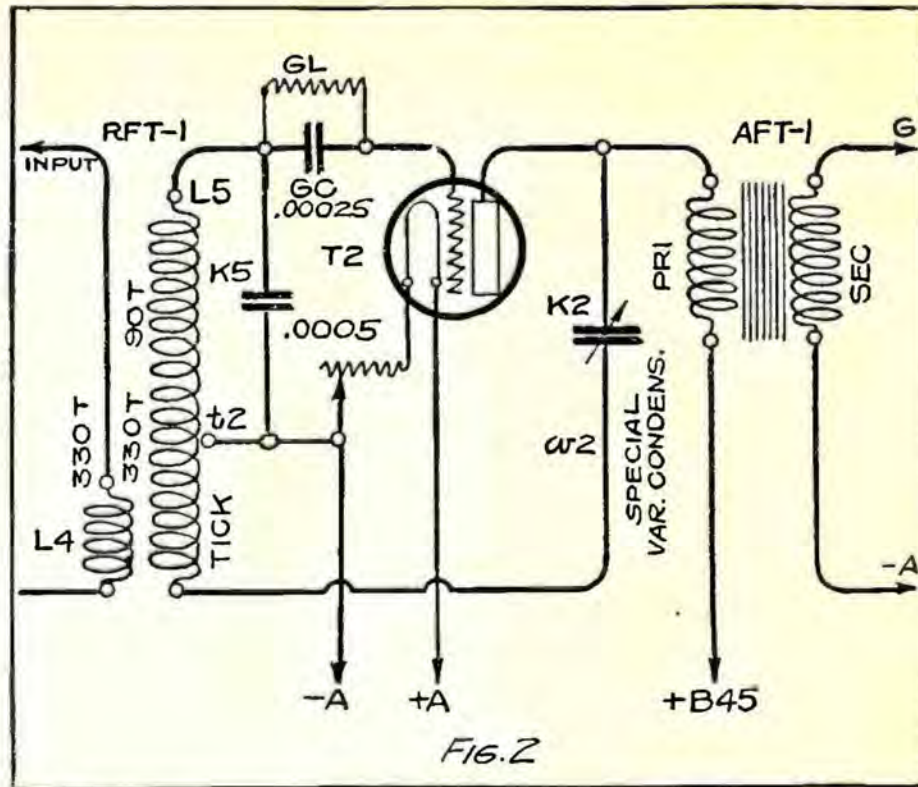

FIG. 2
Following the radio frequency circuit is the detector circuit of Fig. 2, coupled by means of the air-core radio frequency transformer or filter (RFT-1). The primary (L4) carries the putput of tube (T1) as previously explained and acts inductively on the secondary (L5). As before, the secondary is tapped at (t2) with a connection to the (-A) line, and the lower portion of the coil (TICK) again acts as the tickler coil for securing regeneration. At (GC) and (GL) are the usual grid condenser and leak used with a detector circuit, but now variable condenser is used for tuning the system to wavelength. Coil (L4) = 330 turns of No. 26, coil (L5) = 90 turns, and (TICK) = 330 turns of same wire.